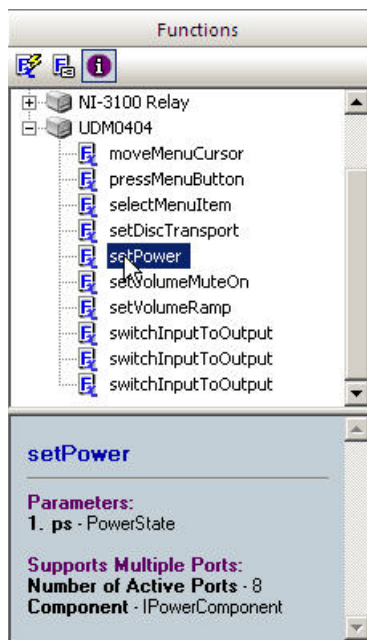

FIG. 228 CodeBuilder - Functions tab
- Click the plus-sign next to any device in the *Function* tab to expand the view to show all supported functions for that device. Select a function to view information for that function (FIG. 228):